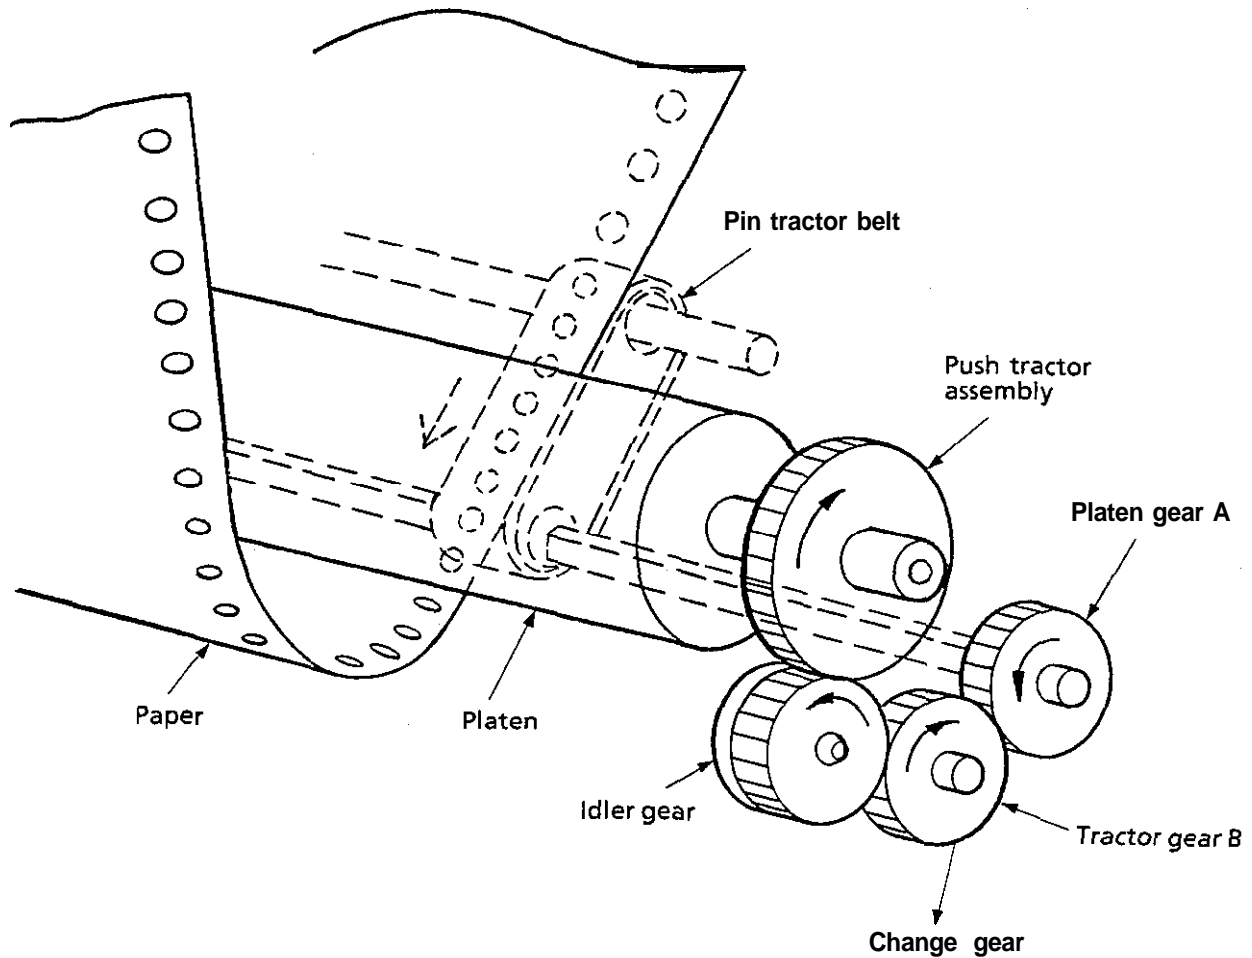

Figure 3-8 Paper feed operation for continuous paper
(2) Continuous paper feed operation (See Figure 3-8.)